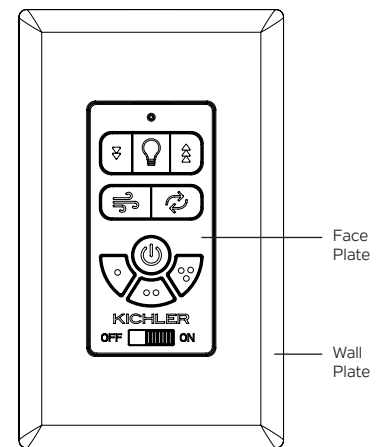

Fig. 11A
Step 3. Snap the face plate back into place on the front of the transmitter first, then snap the wall plate into place on the mounting plate. (Fig. 11A)